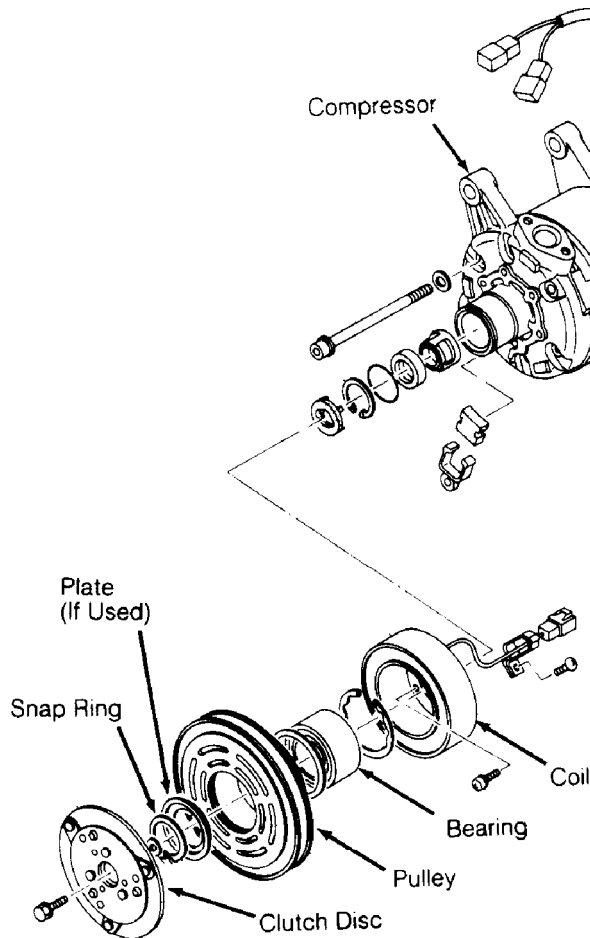

Fig. 4: Diesel Kiki Rotary Vane Compressor
3) Be careful not to scratch shaft or bend pulley. Using an impact driver, loosen 6 coil mounting screws. Remove key and clutch coil. See Fig. 4.
Using clutch holder to prevent clutch disc rotation, remove bolt. Using clutch holder and puller, remove clutch disc. Remove shims from compressor drive shaft or clutch disc. Remove snap ring with external snap ring pliers and then remove pulley. Using a gear puller, remove pulley. Remove coil lead wire and 6 screws. Remove coil. To install, reverse removal procedure. Adjust clutch disc-to-pulley clearance to .010-.020" (.3-.6 mm). See Fig. 4.